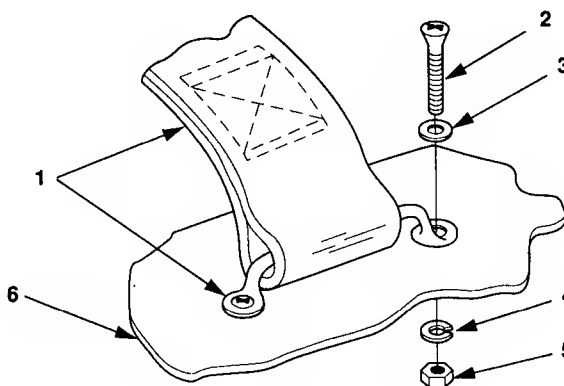

Figure 4-18. Strap Assembly Maintenance.
1. Remove two nuts (5, **figure 4-18**), lock washers (4), flat washers (3), and screws (2) that secure strap assembly (1) to trailer chassis.
2. Remove strap assembly (1).